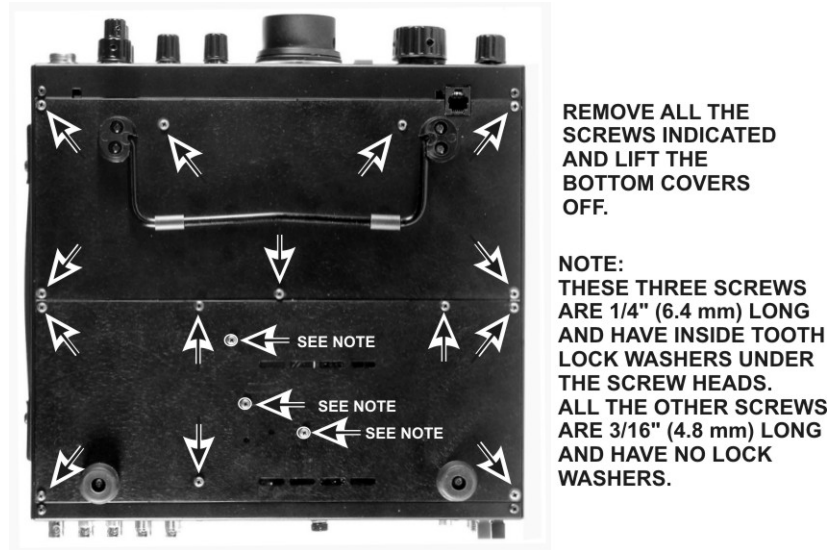

Figure 5. Removing the Bottom Covers.
- Turn the K3 upside down and remove the bottom covers (see Figure 5).
☐ Replace both bottom covers using the 4-40 black pan head screws you removed earlier. Note that three locations take the 4-40 1/4" (6.4 mm) black pan head screws with lock washers as shown in Figure 5, while the remainder are 4-40 3/16" (4.8 mm) screws. Be sure to replace these screws in the correct locations. Make sure all the screws are secure, but do not over tighten them/
**Failure to replace the three 1/4" (6.4 mm) screws with their lock washers in the locations shown in Figure 5 may destroy power transistors in your K3!**